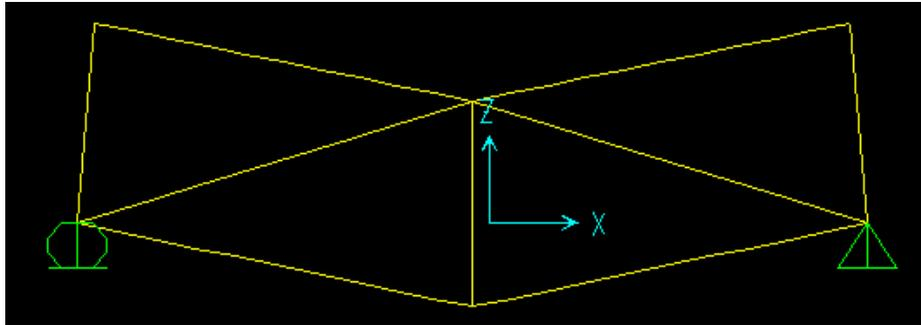

**Figure 18: Setup Analysis Options**
- Now that the geometry of the Truss and the applied loads are set, you are ready to run the analysis. In this example, the truss structure is modeled in the x-z plane. To limit analysis to variables in the x-z plane click on the **Analyze** menu located along the top the SAP2000 interface window and then click on **Set Options**. The **Analysis Options** menu will appear as shown on Figure 18. To restrict SAP 2000 to variables in the x-z plane, select the **Plane Frame** button and click **OK**.